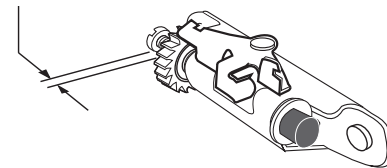

Figure 17 Setting Adjuster Screw
CAUTION Be sure that the adjusting screw is screwed into the star wheel nut until only 1 - 2 threads are exposed (Ref. Figure 17). If the brake shoes are replaced, replace the three brake springs and the adjuster components.
9. The adjusting screw must be screwed into the star wheel nut until only 1 - 2 threads are exposed (Ref. Figure 17).